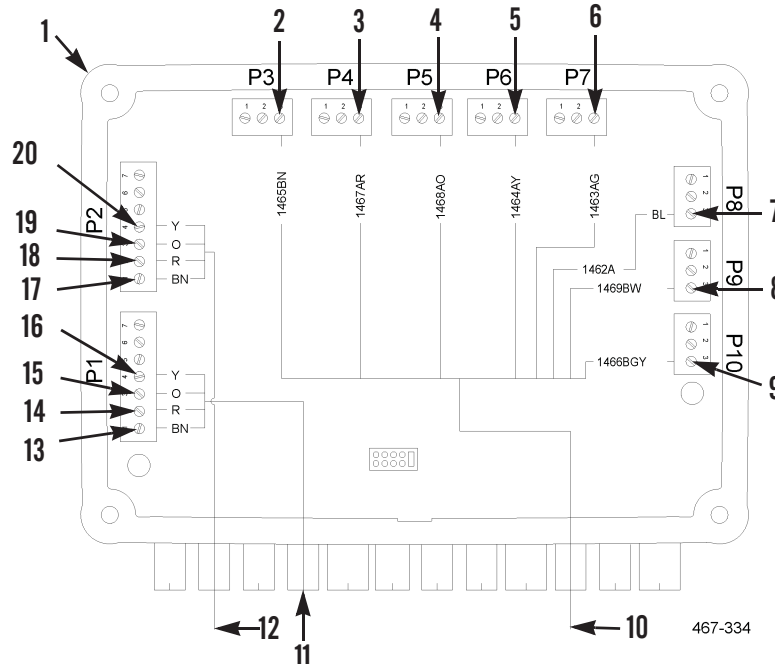

Figure 15. Additional MUX Box Wiring Installation.
1. Route stowage loom harness (Figure 15, Item 10) into additional MUX box (Figure 15, Item 1).
2. Connect 1463 wire to position 3 (Figure 15, Item 6) on P7, 1462 wire to position 3 (Figure 15, Item 7) on P8, 1469 wire to position 3 (Figure 15, Item 8) on P9, and 1466 wire to position 3 (Figure 15, Item 9) on P10.
3. Connect 1465 wire to position 3 (Figure 15, Item 2) on P3, 1467 wire to position 3 (Figure 15, Item 3) on P4, 1468 wire to position 3 (Figure 15, Item 4) on P5, and 1464 wire to position 3 (Figure 15, Item 5) on P6.
4. Route CAN bus harness (Figure 15, Item 12) into additional MUX box (Figure 15, Item 1).
5. Connect brown wire to position 1 (Figure 15, Item 17), red wire to position 2 (Figure 15, Item 18), orange wire to position 3 (Figure 15, Item 19), and yellow wire to position 4 (Figure 15, Item 20), on P2.
6. Route CAN bus harness (Figure 15, Item 11) into additional MUX box (Figure 15, Item 1).
7. Connect brown wire to position 1 (Figure 15, Item 13), red wire to position 2 (Figure 15, Item 14), orange wire to position 3 (Figure 15, Item 15), and yellow wire to position 4 (Figure 15, Item 16), on P1.